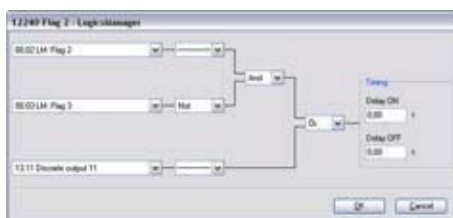

Fig. 168: LogicsManager function "Flag 2"
3. Configure the LogicsManager function "Flag 2" as shown in (Fig. 168).